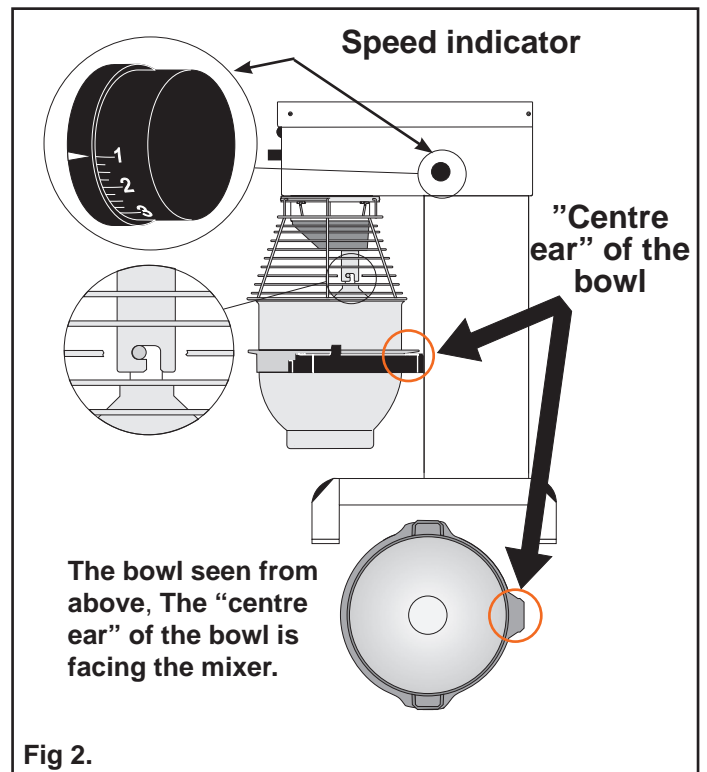

Fig 2.
- B** **Note:** the bowl arms must be in the lowest position. Place the bowl in the bowl arms. Check that the bowl is pushed right back into the arms and that the “centre ear” of the bowl arms are turning in towards the mixer (**fig. 2**). Place the mixer tool in the bayonet shaft. The tap of the tool must be turned right into the bayonet hole. Close the safety guard.
- F** Press  and  until you have reached the desired speed. You can read the speed on the indicator on the side of the mixer (**fig. 2**). See also “**Recommended max. speeds**” (**fig. 1**).